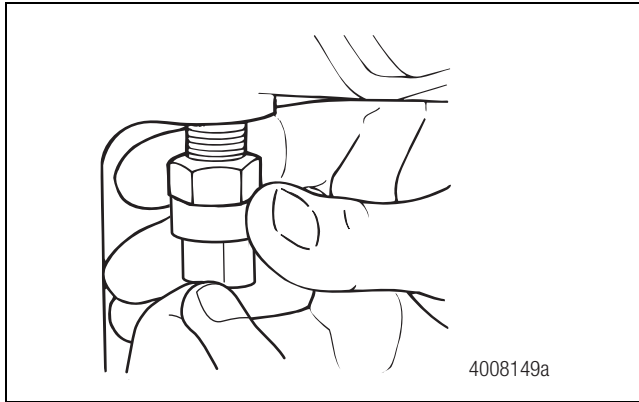

Figure 21
- Engage the DCDL so the shift collar is in the locked position and install the sensor switch into its hole but do not tighten. Figure 21.